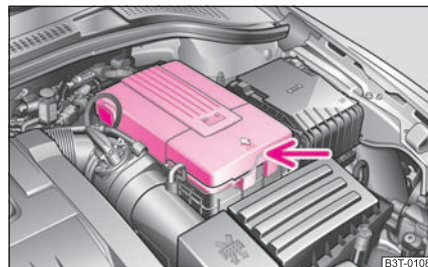

Fig. 191 Engine compartment: The battery
- Press the interlock on the side of the battery cover ⇒ page 216, fig. 191, fold the battery cover out and pull it out.